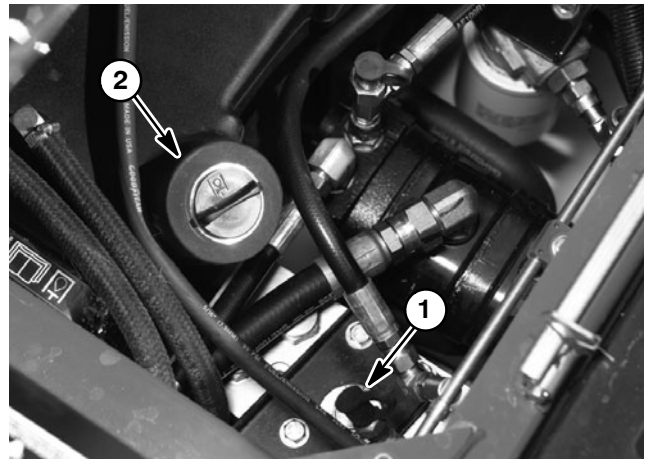

Figure 14
3. Connect a 1000 PSI gauge onto charge pressure test port (Fig. 14) under operator seat.